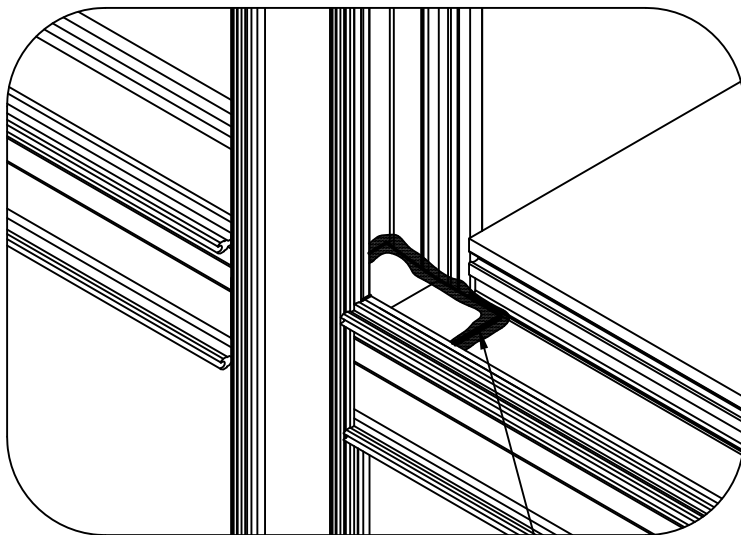

FIGURE 24
- 3.16 Step 3. Tool sealant between zone plug, mullion and horizontal to insure a proper seal. SEE FIGURE 24, page 22.